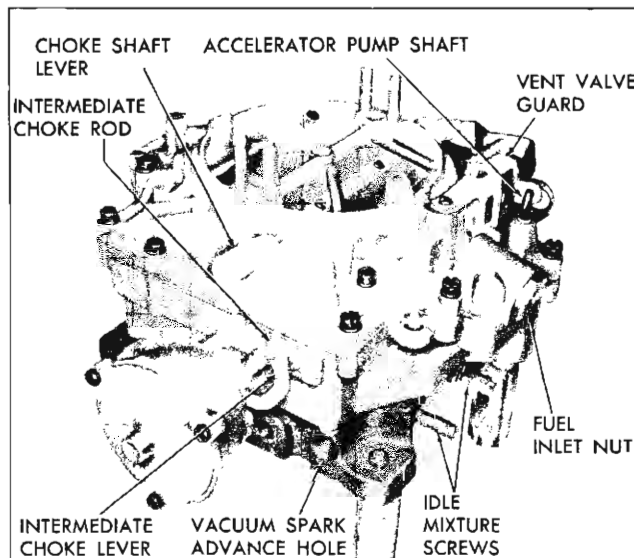

Fig. 40—Idle Speed and Mixture Adjustment
3. Adjust the speed adjustment screw (fig. 40) to give proper idle speed shown in tune-up chart.